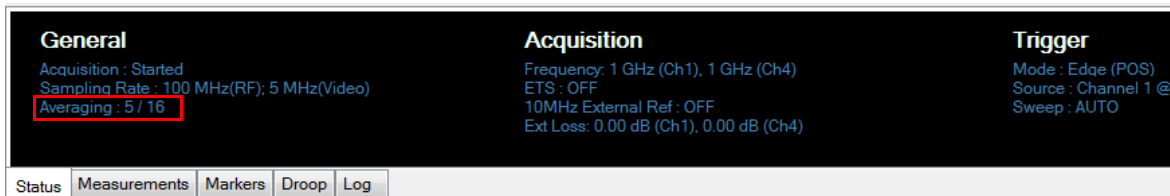

Figure 2-32 Waveform averaging status in the status view
- 6 The waveform averaging status is displayed in the Status view as shown in Figure 2-32.